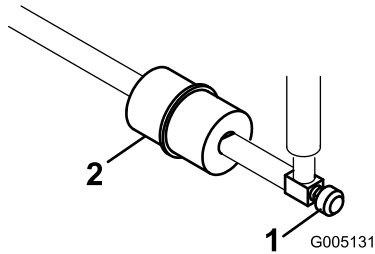

Figure 50
An in-line filter is incorporated into the fuel line between the fuel tank and carburetor (Figure 50). Replace the filter every 800 hours or sooner if the fuel flow is restricted. Be sure the arrow on the filter is pointing away from the fuel tank.
1. Close the fuel shut off valve, loosen the hose clamp on the carburetor side of filter, and remove the fuel line from the filter (Figure 50).
2. Place a drain pan under the filter, loosen the remaining hose clamp and remove the filter (Figure 50).